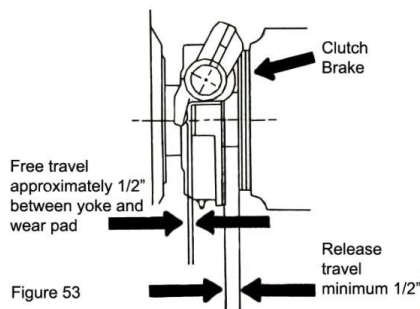

Figure 53
3. There must be 5/8" movement of the clutch release bearing for the clutch to release properly (Figure 53). If these conditions exist, the clutch is properly adjusted. If not, adjustment of the clutch is accomplished by using the adjusting ring (Figure 54).